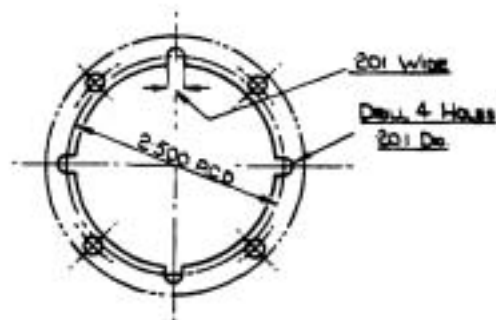

FIG. 5.
4. Run the earth lead from the dash heater motor under the carpet and connect up to the switchbox earth connection as shown in Fig. 5.